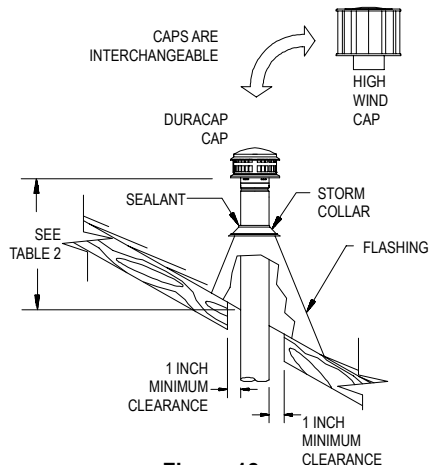

Figure 12
10. Terminations. Where the Pipe Sections pass through the roof, a hole must be cut to provide a minimum clearance (air space) of 1 inch between the Pipe and construction materials. Straight lengths of pipe are run up above the roof a minimum of 1-foot. (**Refer to Table 2**) A Roof Flashing is placed down over the pipe, and adjusted so it fits tightly against the roof, with the Pipe Section held in a position maintaining the 1 inch minimum clearance from combustibles. The Flashing is then nailed to the roof. The roofing material (shingles, asphalt paper, etc.) should overlap the top edge (uphill side) of the Flashing. A non-hardening sealant should be used around the edges of the flashing base where it meets the roof. Non-hardening sealant is placed around the joint between the Flashing and the vertical Pipe Section and the Storm Collar is then placed over this joint, to make a watertight seal. (**Figure 12**) Add sufficient Pipe Sections to attain the minimum height specified in **Table 2** (see next page). To connect the Termination Cap to the pipe, hold Cap by its collar, slide collar over locking lugs of pipe, and twist-lock clockwise. Termination Caps of diameters greater than 16 inches do not twist-lock, but are affixed with sheet metal screws.